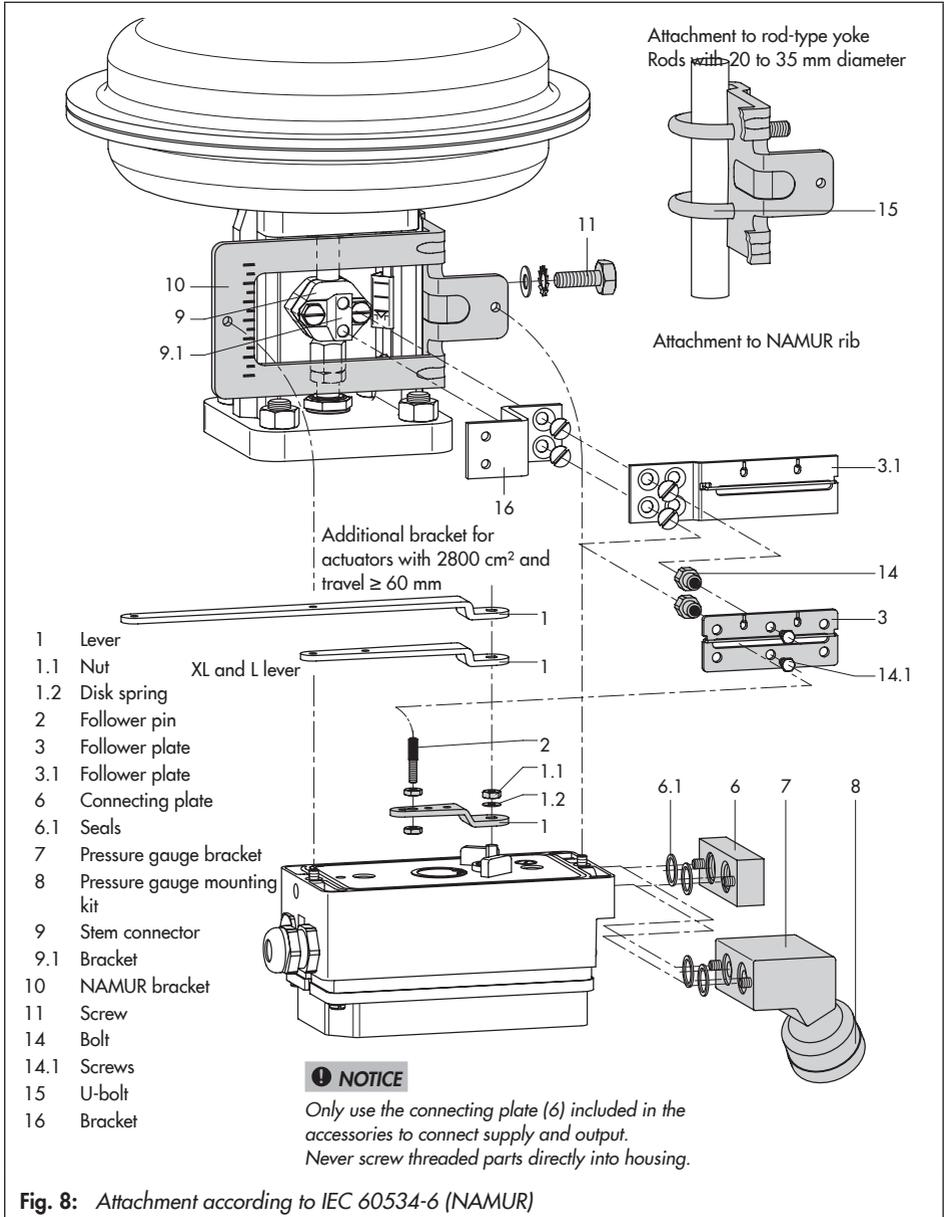

Fig. 8: Attachment according to IEC 60534-6 (NAMUR)
→ Observe mounting position (see Fig. 8).
- See Fig. 8